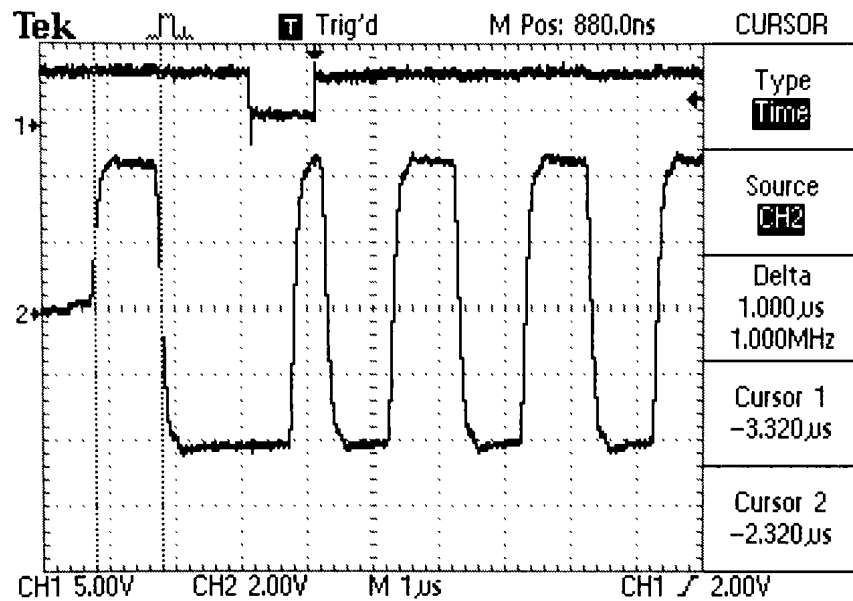

Figure 455-12: Midsync Transition 500 ns Early
2. Measure from the beginning of the sync to the midsync. Verify that the reading is $1\mu\text{s} \pm 70\text{ ns}$. Refer to figure 455-12.